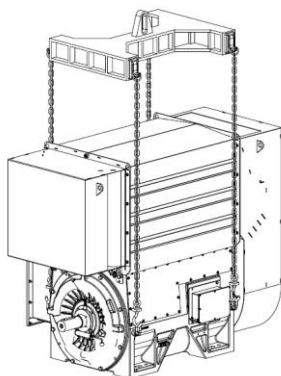

Figure 3.1: Handling
1. Lift the motor, as indicated in Figure 3.1, using the four lifting lugs provided only for that purpose. If necessary, remove the heat exchanger to lift the motor;